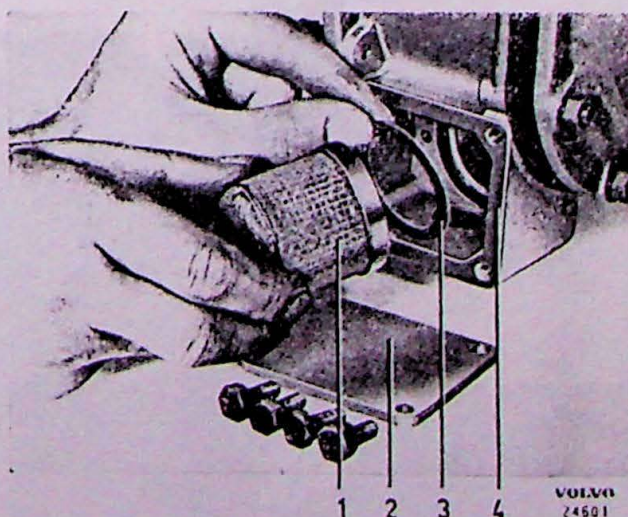

Fig. 3-38. Removing the oil strainer
(1), see Fig. 3-38. Clean the oil strainer in gasoline or white spirit. Blow dry with compressed air.
2. Check that the gasket (3) is intact and place it in position. Fit the oil strainer, new gasket (4) and cover.